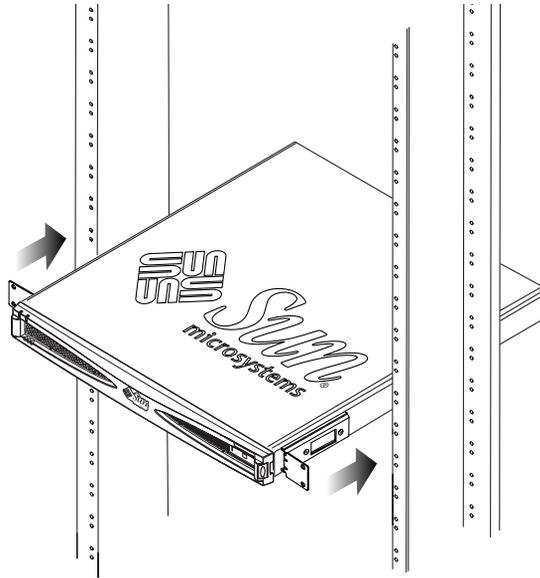

FIGURE 3-11 Installing Into a Two-Post Relay Rack with Brackets at Front
2. Position the storage enclosure in the rack and tighten the screws (see FIGURE 3-11 and FIGURE 3-11).